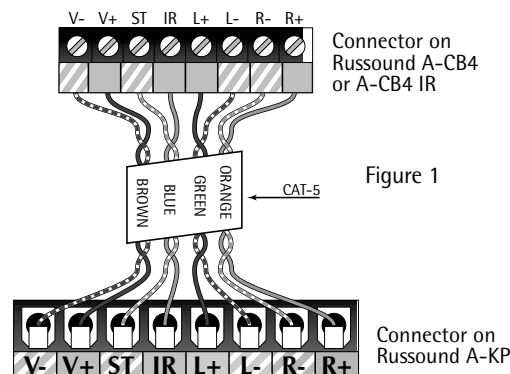

Figure 1
- 2) Connect a CAT-5 cable from the A-CB4 IR Connecting Block to the A-BUS module input as shown in Figure 1. Be sure to follow the wire color code as follows: V- = Brown/White, V+ = Brown, ST = Blue/White, IR = Blue, L+ = Green, L- = Green/White, R- = Orange/White, R+ = Orange. If the color code above is not followed, you may encounter inconsistent operation of the A-BUS module. The recommended maximum connection length for use with standard CAT-5 cable is 100 feet. If the connection length from the A-CB4 IR to the A-BUS amplified module is greater than 100 feet, use 22-18 gauges stranded 8-conductor cable such as Russound Model# MCW-2418 for optimum performance.